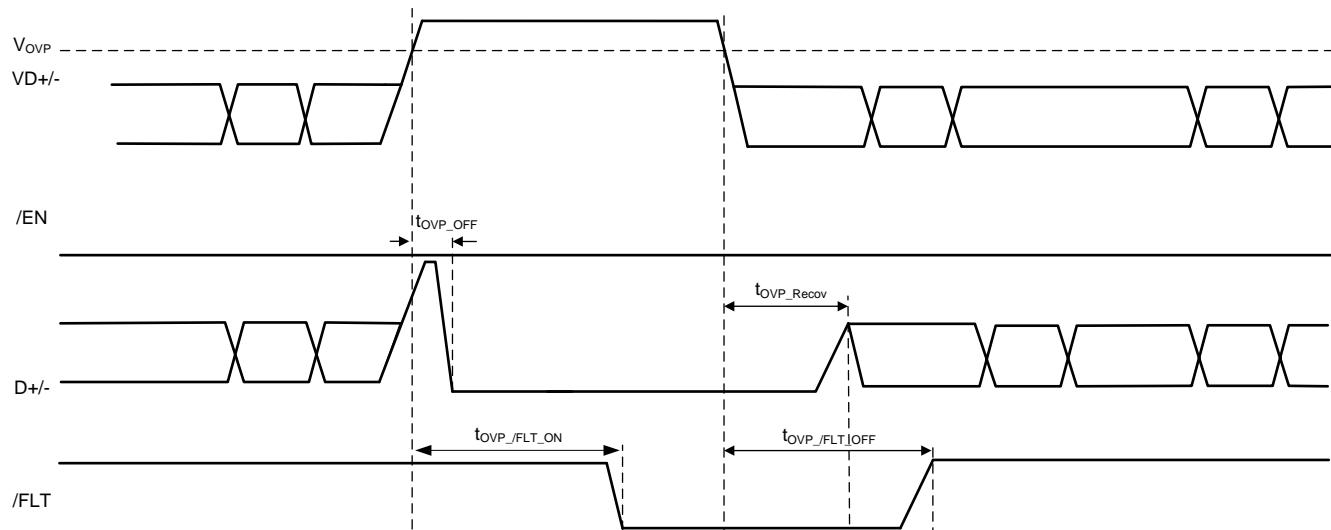

图 1 TPD2S701-Q1 Timing Diagram
(1) Shown in 图 1.
(2) Specified by design, not production tested.